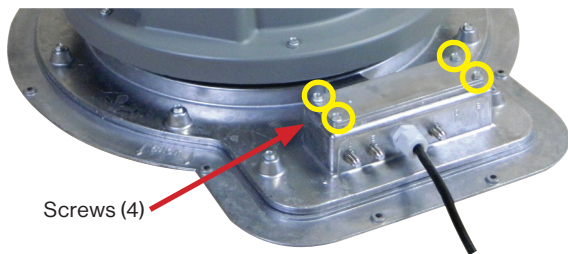

FIGURE 11. Remove the four screws on the cover
1. Remove the four 5/16" screws from the cable cover, and remove the cable cover (figure 11).